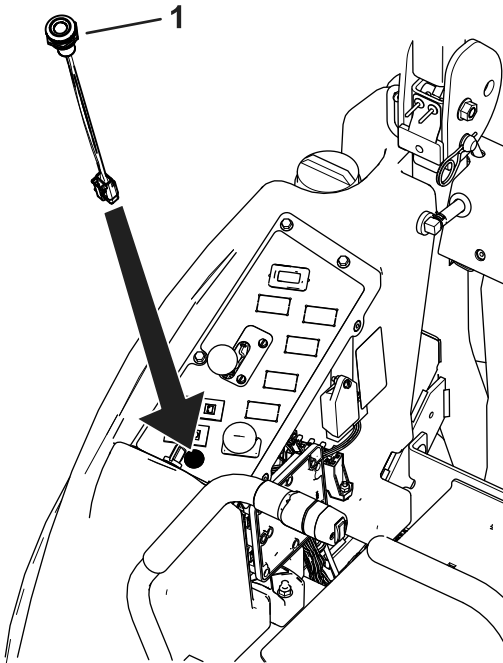

Figure 7
13. Install the light into the top of the console (Figure 7).